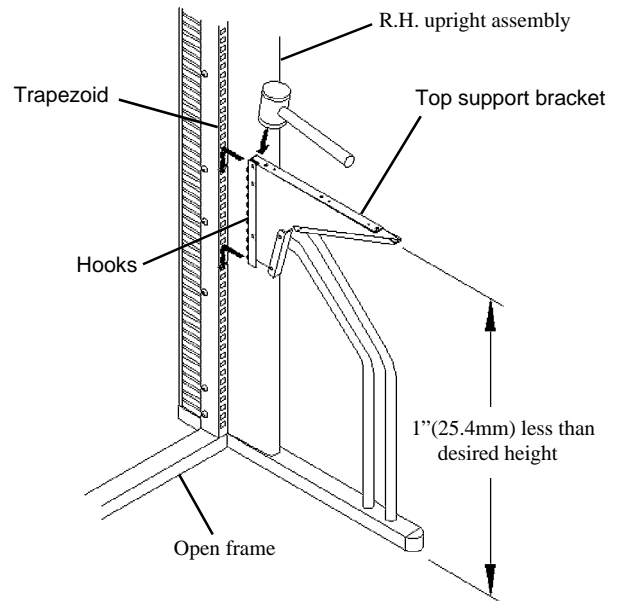

Figure 1
2. Attach the Top Support Bracket to the Full Frame and tap it into place with a plastic mallet to make sure the hooks are securely seated. See **Figure 1**.